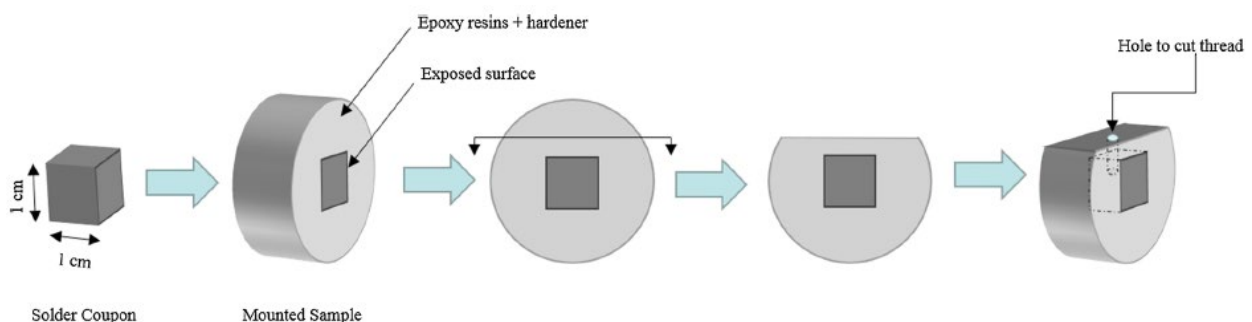

Figure 1: Schematic diagram of sample preparation for electrochemical corrosion measurement
- (2). (a). Figure 1 presents the sample preparation procedure for electrochemical corrosion measurements of metal solder alloys. Evaluate the potential influence of this procedure on the accuracy and repeatability of corrosion results. Discuss at least three critical aspects of the preparation process that must be rigorously controlled to ensure the reliability of measurements.